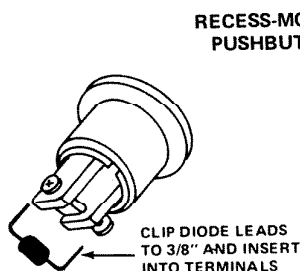

FIGURE 4
2. Wire the diode to the two terminals on the pushbutton, as shown in Figure 4, 5, or 6 — whichever most looks like your pushbutton.